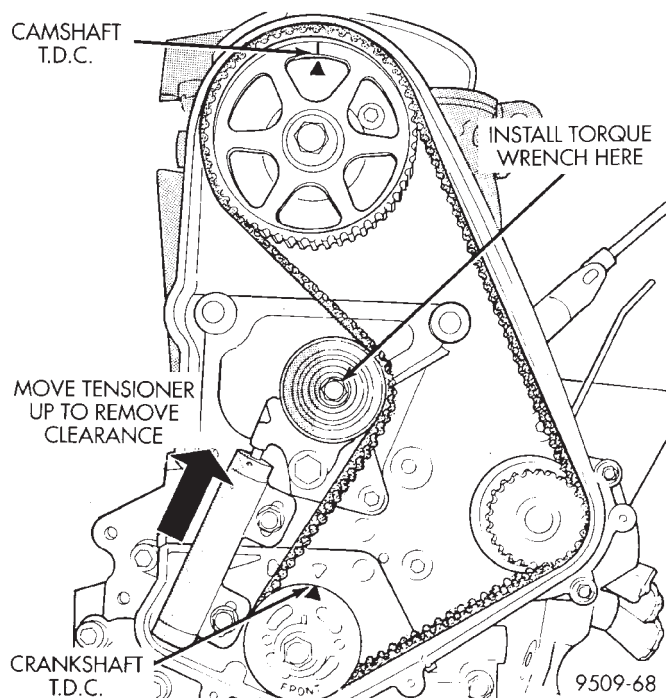
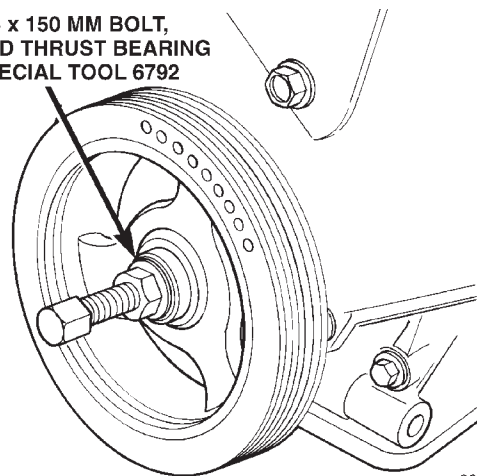

Fig. 63 Adjusting Timing Belt Tension
Fig. 64 Crankshaft Damper—Installation
(9) Using a torque wrench on the tensioner pulley apply 28 N·m (250 in. lbs.) of torque (Fig. 63).
(10) With torque being applied to the tensioner pulley move the tensioner up against the tensioner pulley bracket and tighten fasteners to 31 N·m (275 in. lbs.) (Fig. 63).
(11) Pull tensioner plunger pin. Pretension is correct when pin can be removed and installed.
(12) Rotate crankshaft 2 revolutions and check the alignment of the timing marks (Fig. 63).
(13) Install front half of timing cover.
(14) Install engine mount bracket.
(15) Install Right engine mount. Refer to procedure outlined in this section.
(16) Remove jack from under engine.
(17) Install crankshaft damper using M12-1.75 x 150 mm bolt, washer, thrust bearing and nut from Special Tool 6792. Install crankshaft damper bolt and tighten to 142 N·m (105 ft. lbs.) (Fig. 64).
(18) Install accessory drive belts. Refer to Group 7, Cooling System Accessory Drive section for procedure.
(19) Raise vehicle on hoist and install right inner splash shield.
(20) Perform camshaft and crankshaft timing relearn. Refer to Group 25, Emission Control Systems for procedure.